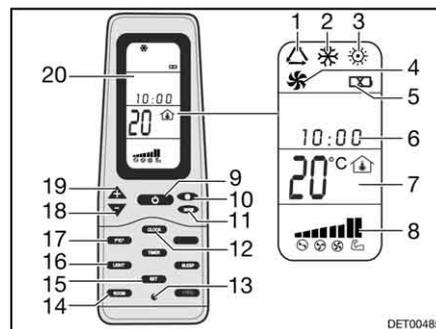

Fig. 205 Remote control
- Press the ON/OFF button (Fig. 205,9).
- Press the "Mode" button (Fig. 205,11) as often as required until the required mode (Fig. 205,1, 2, 3 or 4) is indicated on the display (Fig. 205,20).
- Use the "+" (Fig. 205,19) and "-" (Fig. 205,18) buttons to set the desired temperature.
- Use the fan speed button (Fig. 205,10) to select the desired fan level.